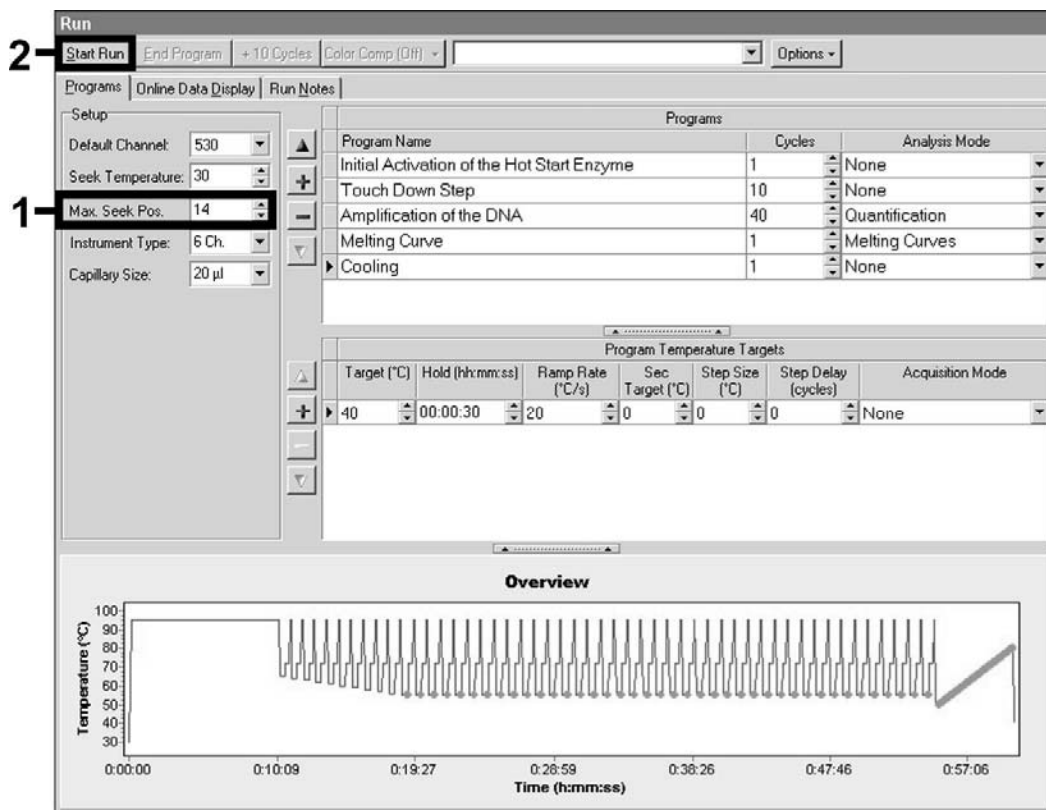

Fig. 8: Start of the PCR run.
Make sure that you first enter the number of capillaries prepared for this PCR run (*Max. Seek Pos.*, see Fig. 8).
- In order to start the PCR run, change to the field *Run* and activate the function *Start Run* (see Fig. 8). The PCR programme will start after entering the location where the data should be saved.